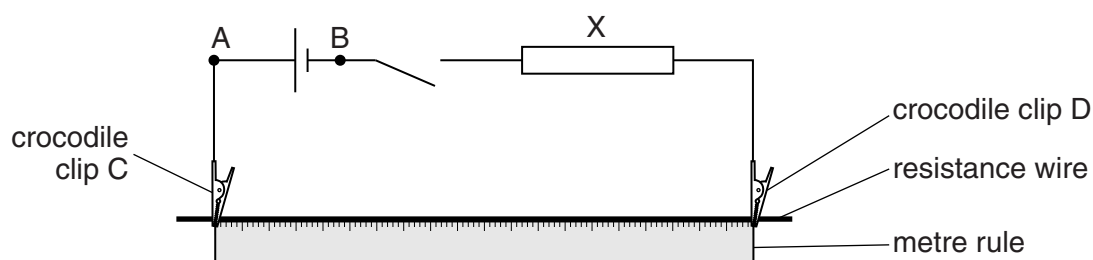

Fig. 4.1
Four connecting leads to enable the Supervisor to set up the circuit shown in Fig. 4.1. The points A, B, C and D should be labelled.
6. At the changeover, the Supervisor should disconnect the voltmeter from the circuit and check that the circuit is set up as in Fig. 4.1 with the switch open and the crocodile clips at the ends of the metre rule. The voltmeter and the two connecting leads should be placed on the bench. If cells are used, they should be checked, and replaced if necessary.